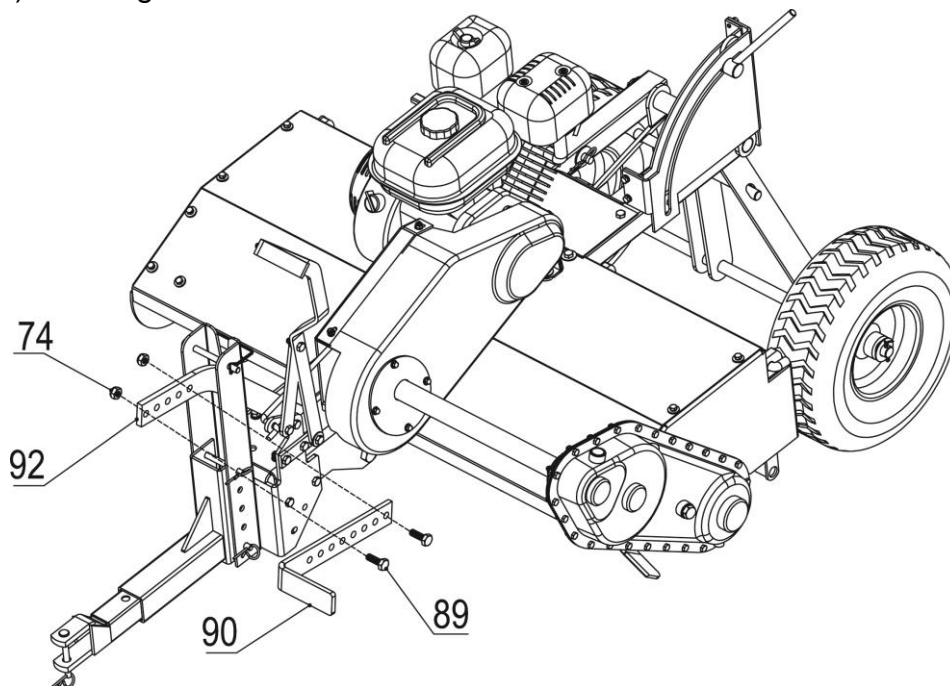

Figure 4
1. Connect the Lift Handle (#90) to the Lift Arm (#92) using two Hex Bolts (#89) and two Nylon Lock Nuts (#74). See Figure 4.